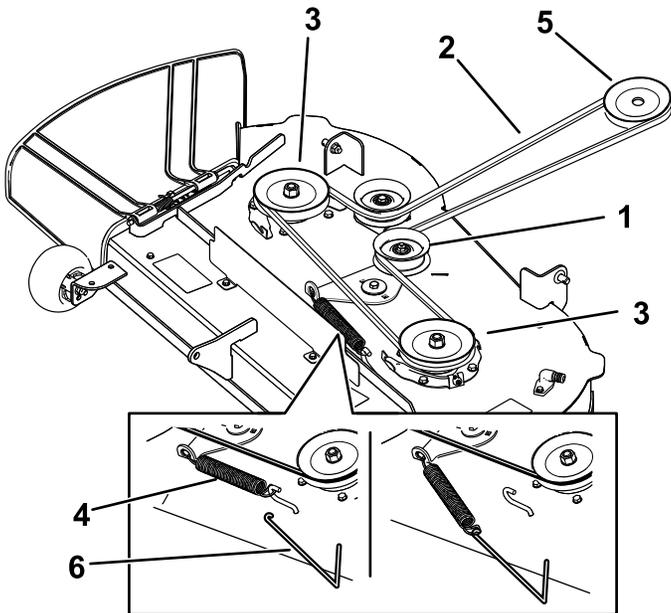
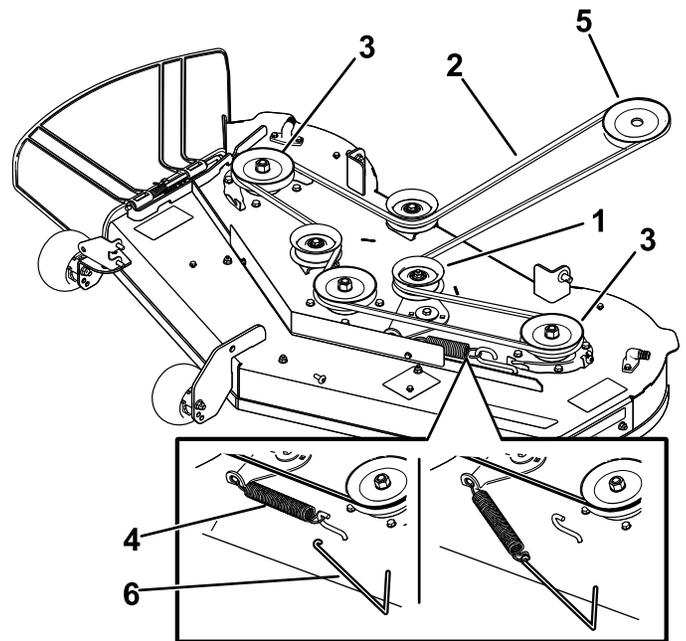

Figure 57
Figure 58
- 7. Using a spring-removal tool (Toro Part No. 92-5771), remove the idler spring from the deck hook to remove tension on the idler pulley, and roll the belt off the pulleys (Figure 57 or Figure 58).
- 8. Route the new belt around the engine pulley and mower pulleys (Figure 57 or Figure 58).
- 9. Using a spring-removal tool (Toro Part No. 92-5771), install the idler spring over the deck hook and place tension on the idler pulley and the mower belt (Figure 57 or Figure 58).